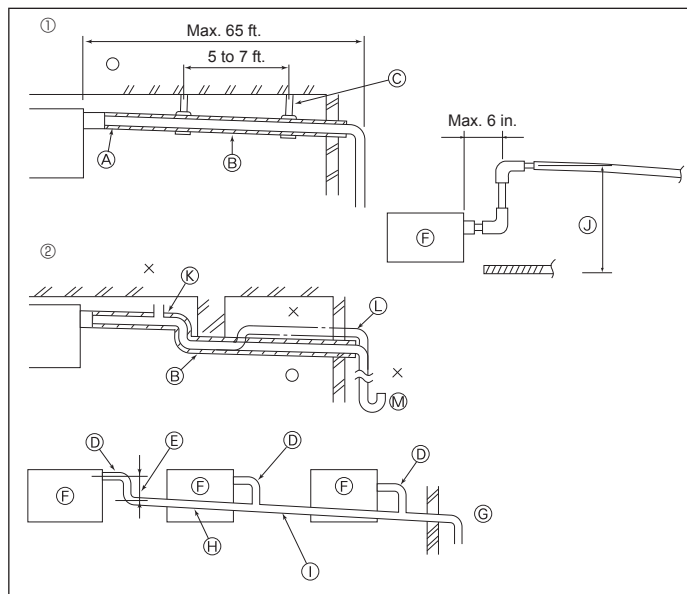

Fig. 4-5
4.4. Drainage piping work (Fig. 4-5)